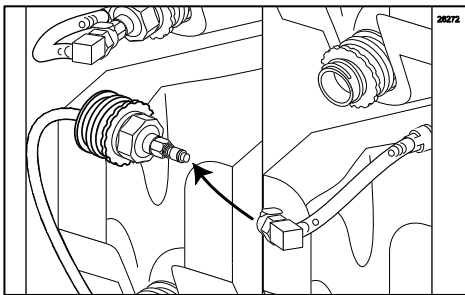

Figure 67
16. Connect the Pump Flush Adapter assembly to the Syrup Bag Connector. (See Figure 67.)